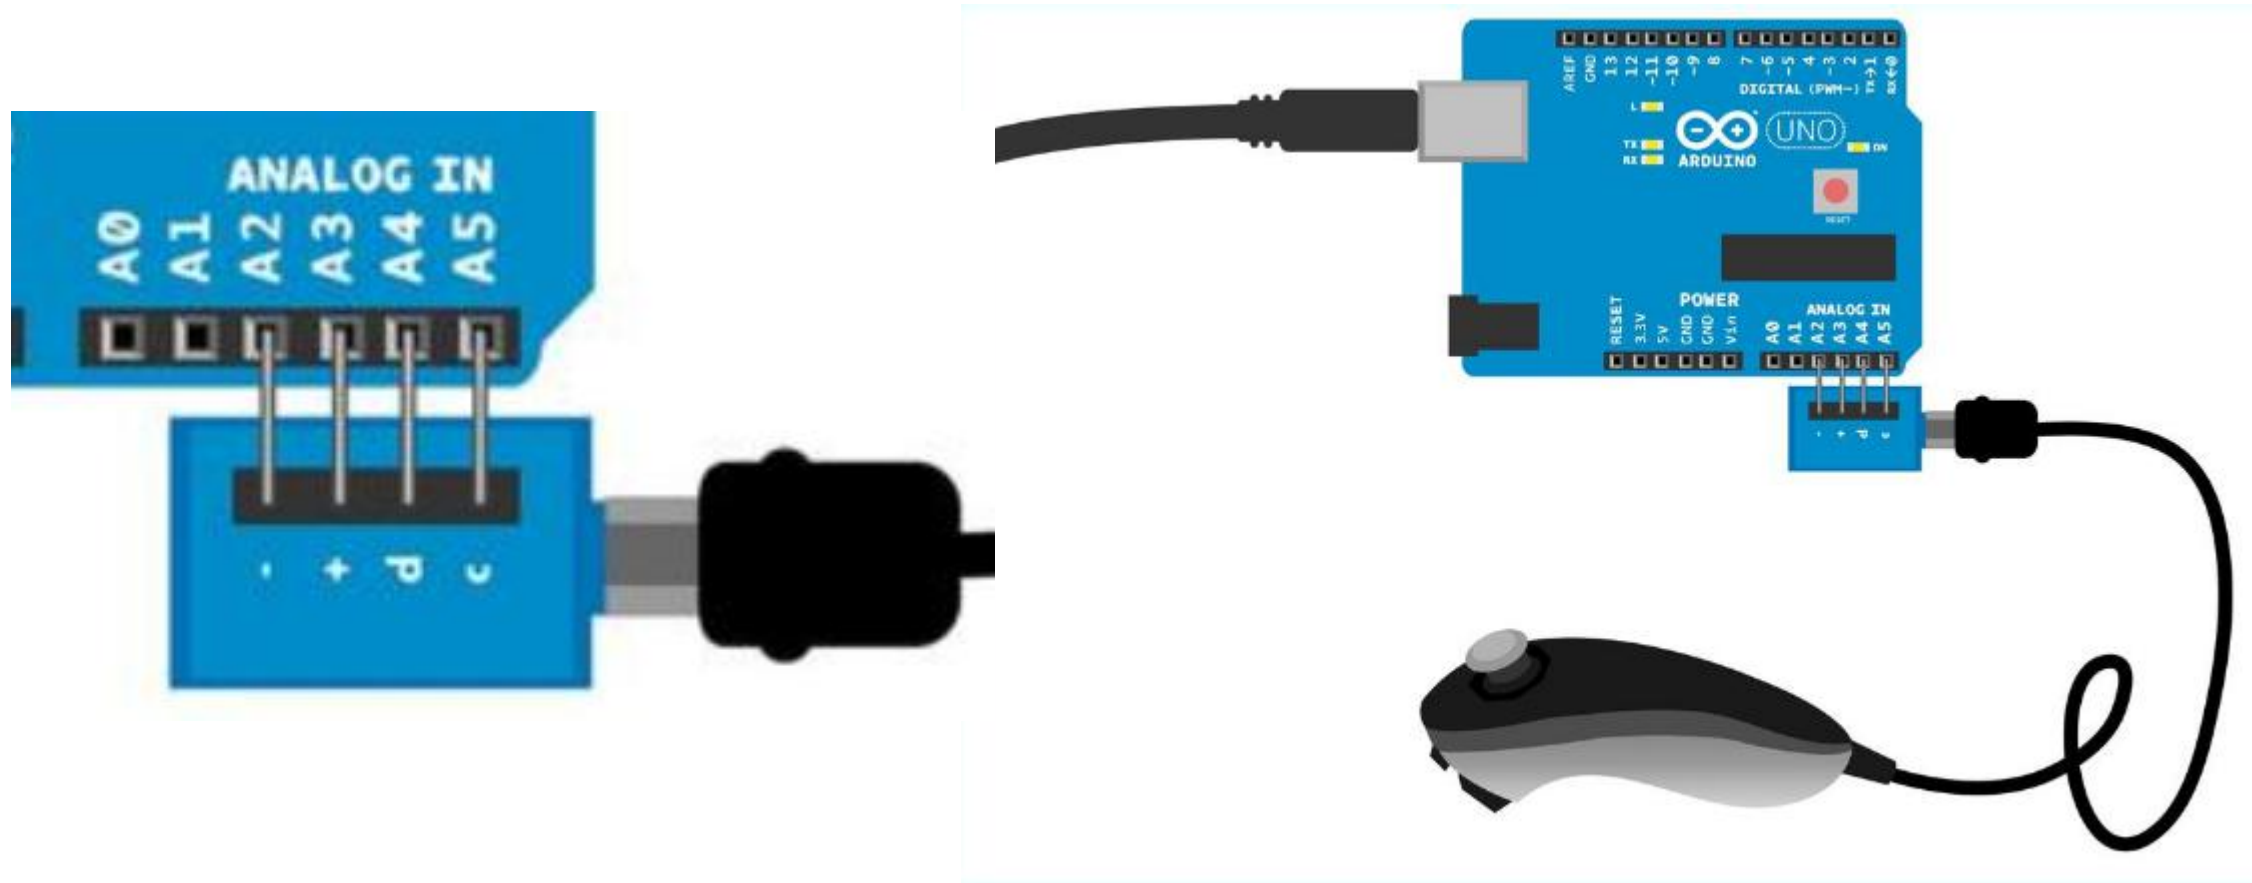

Figure 8-8. WiiChuck circuit for Arduino
- Figure 8-8 shows the connection diagram for Arduino. Wire things up as shown, and run the sketch shown in Example 8-6.